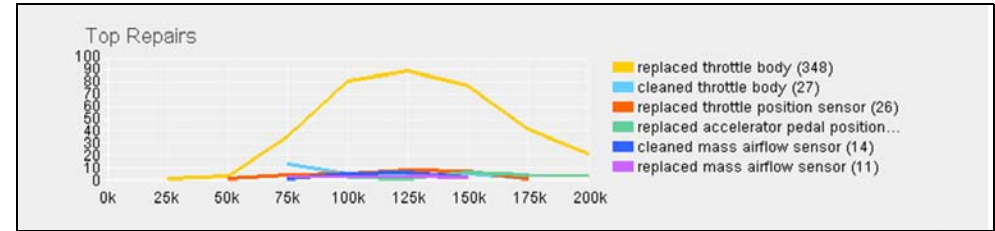

Figure 5-3
5. The Top Repairs Graph (*Figure 5-3*) shows the most common verified fixes and procedures, and provides a quick indication of what other technicians have done to fix vehicles that have exhibited the same code. The graph is not selectable and is continuously updated as new data is collected.